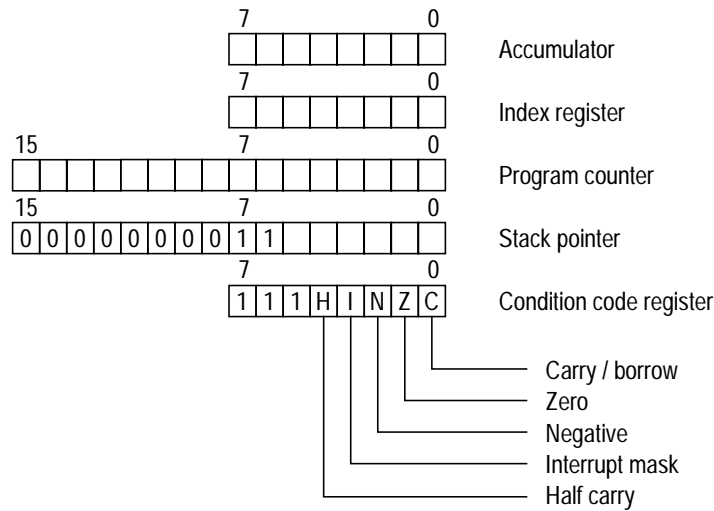

Figure A-2 Programming model of the MC68HC05D24
The programming model of the MC68HC05D24 is identical to that of the MC68HC05D9, except for the program counter (see Figure A-2). Only bit 15 of the program counter (PC) in the MC68HC05D24 is permanently set to zero, thus restricting the address range to \$0000–\$7FFF (32K bytes).